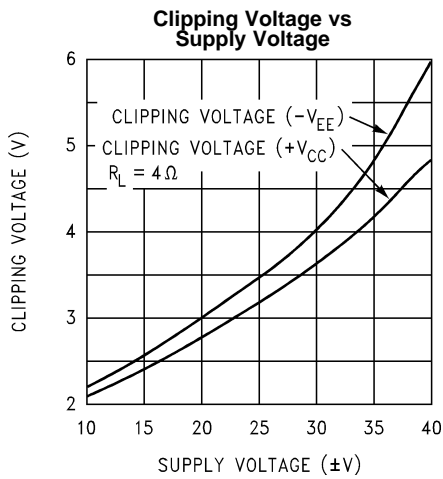

Figure 14.
- (1) All voltages are measured with respect to the GND pin (pin 7), unless otherwise specified.
- (2) Absolute Maximum Ratings indicate limits beyond which damage to the device may occur. Operating Ratings indicate conditions for which the device is functional. Electrical Characteristics state DC and AC electrical specifications under particular test conditions and specific performance limits. This assumes that the device is within the Operating Ratings. The typical value is a good indication of device performance.
- (3) Typical values are measured at $25^\circ C$ and represent the parametric norm.
- (4) Limits are specified to AOQL (Average Outgoing Quality Level).
- (5) V^- must have at least $-9V$ at its pin with reference to ground in order for the under-voltage protection circuitry to be disabled.
- (6) AC Electrical Test; refer to Test Circuit #2 - AC Electrical Test Circuit.
- (7) The feedback compensation network limits the bandwidth of the closed-loop response and so the slew rate will be reduced due to the high frequency roll-off. Without feedback compensation, the slew rate is typically larger.
- (8) DC Electrical Test; refer to Test Circuit #1- DC Electrical Test Circuit.
- (9) The output dropout voltage is the supply voltage minus the clipping voltage. Refer to Figure 14 in Typical Performance Characteristics.